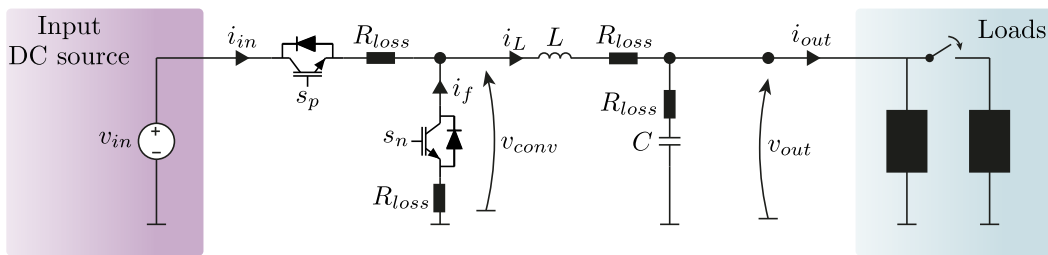

Figure 4: Nonideal Synchronous Buck converter.
Modify the circuit implemented previously and add the resistances shown in Fig. 4. This is a very simple model that emulates the conduction losses of the semiconductors, the copper losses of the inductor, and the equivalent series resistance (ESR) of the capacitor. Much more complex models can model effects such as source resistances, line models, switching losses of the semiconductors, nonlinearities of the passive components, and parasitic capacitances.
5. With the modified duty cycle obtained in the previous task: Simulate the system, and once the steady state is achieved, increase the output current by connecting the parallel resistance shown in Fig. 4. Use the electrical switch and configure the switching time accordingly. Show the transient response.